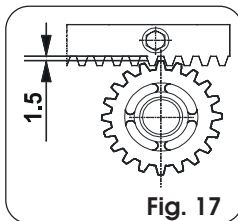

Fig. 17
- When the rack has been installed, to ensure it meshes correctly with the pinion, we advise you to lower the gearmotor position by about 1.5 mm (Fig.17).